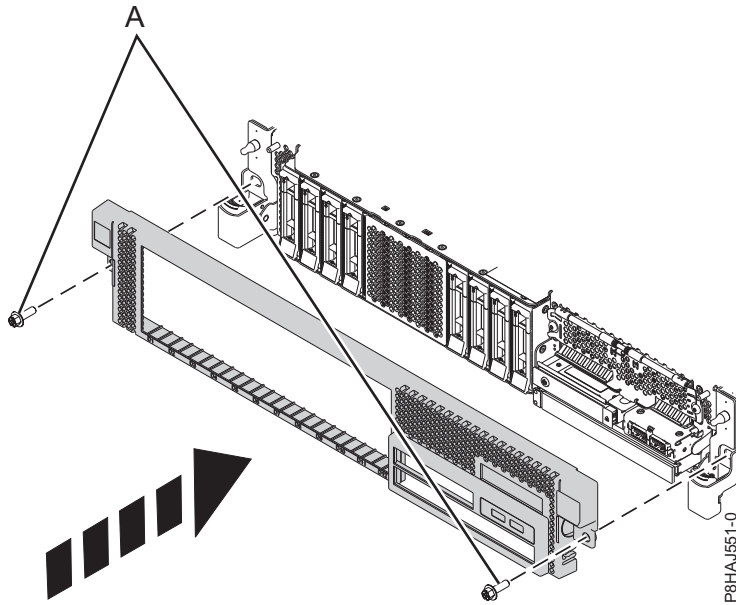

Figure 31. Installing the front cover
3. Close the release latches by pushing in the direction shown in Figure 31 on page 47. The cover snaps into place and has an indentation where you can hold onto it more easily.
4. Replace the shipping screws (A).